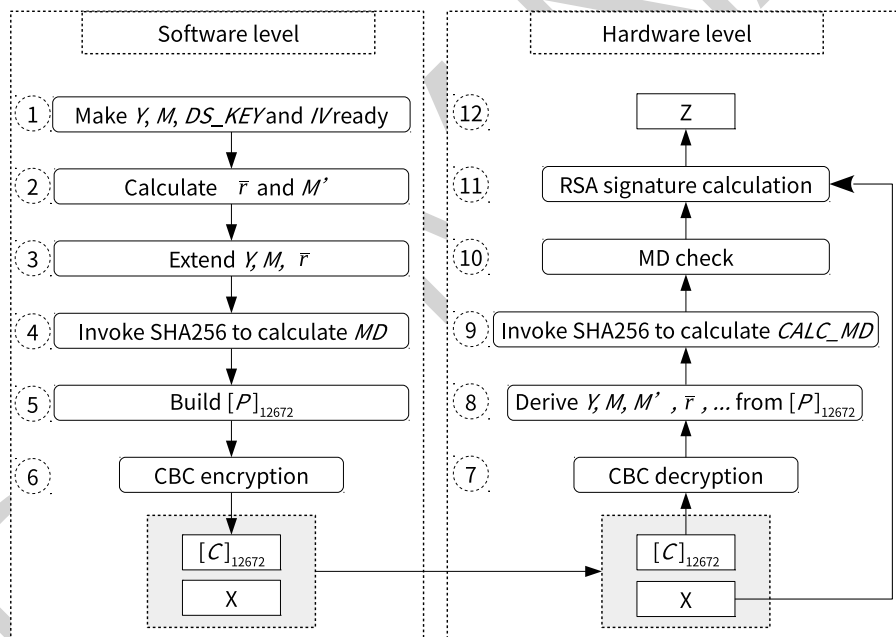

Figure 21-1. Software Preparations and Hardware Working Process
The left side of Figure 21-1 lists preparations required by the software before the hardware starts RSA signature calculation, while the right side lists the hardware workflow during the entire calculation procedure.
1. The software preparation (left side in the Figure 21-1) is a one-time operation before any signature is calculated, while the hardware calculation (right side in the Figure 1-1) repeats for every signature calculation.
Users need to follow the steps shown in the left part of Figure 21-1 to calculate C . Detailed instructions are as follows:
1. Decryption: Step 7 and 8 in Figure 21-1
The decryption process is the inverse of Step 6 in figure 21-1. The DS peripheral will call AES accelerator to decrypt C in CBC block mode and get the resulted plaintext. The decryption process can be represented by $P = \text{AES-CBC-DEC}(C, DS_KEY, IV)$, where IV (i.e., $[IV]_{128}$) is defined by users. $[DS_KEY]_{256}$ is provided by HMAC module, derived from $HMAC_KEY$ stored in eFuse. $[DS_KEY]_{256}$, as well as $[HMAC_KEY]_{256}$ are not readable by users.
2. Check: Step 9 and 10 in Figure 21-1
The DS peripheral will perform two checks: MD check and padding check. Padding check is not shown in Figure 21-1, as it happens at the same time with MD check.
3. Calculation: Step 11 and 12 in Figure 21-1